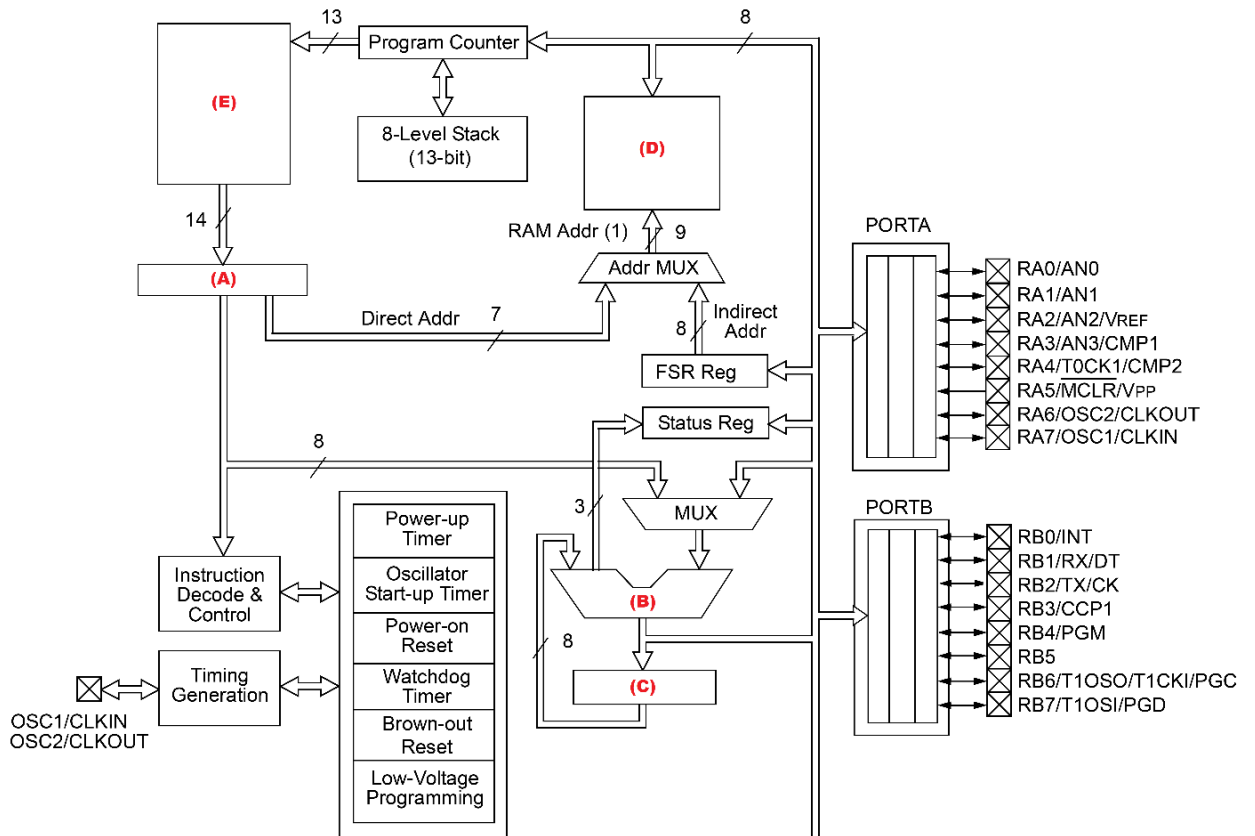

Figure 4(c)
b) Name the architecture for Figure 4(b1) and Figure 4(b2). Compare the operation of Figure 4(b1) architecture with Figure 4(b2) architecture. (4 marks)
c) Name and describe the function of the following label as shown in figure 4(c).
- i) Label (A) (3 marks)
- ii) Label (B) (3 marks)
- iii) Label (C) (3 marks)
- iv) Label (D) (3 marks)
- v) Label (E) (3 marks)
State the possible type of microcontroller for Figure 4(c) internal architecture. (1 mark)